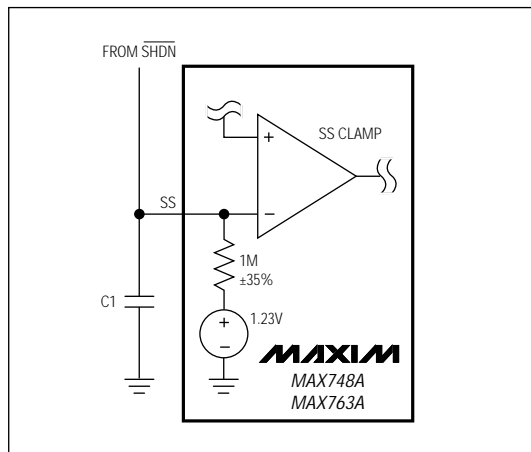

Figure 2. Soft-Start Circuitry Block Diagram
Figure 2 shows a capacitor connected to the soft-start (SS) pin to ensure orderly power-up. A typical value is 0.047 $\mu$ F. SS controls both the SS timing and the maximum output current that can be delivered while maintaining regulation.